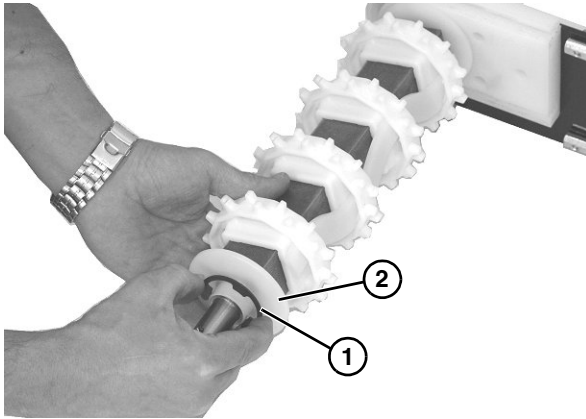

Figure 28
9. Remove retaining clip (**Figure 28, item 1**) and flanged puck (**Figure 28, item 2**) from drive spindle.